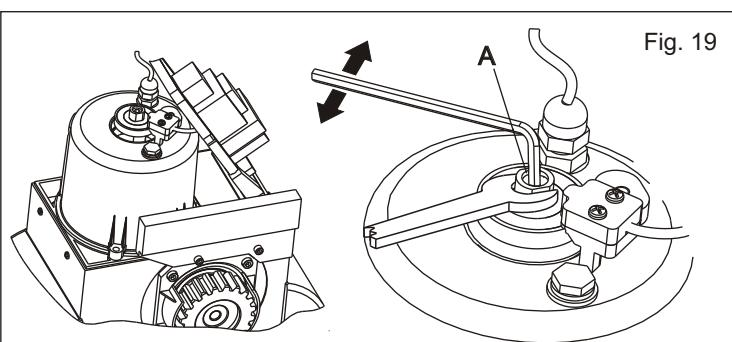

Fig. 19
- Act on the "A" screw (Fig. 19) in the following way: